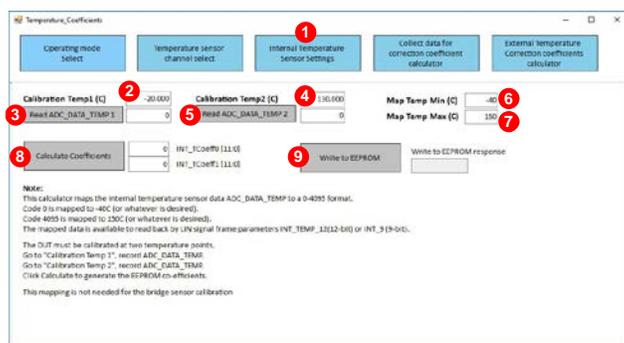

Figure 24. Calibration Window for Internal Temperature
1. Click **Internal Temperature Settings** to open the calibration window for the internal temperature (Label 1 in Figure 24).
2. Enter the first calibration measuring point in degrees Celsius (°C) in the **Calibration Temp1 (C)** box (Label 2 in Figure 24).
3. Click **Read ADC_DATA_TEMP 1** (Label 3 in Figure 24).
4. Enter the second calibration measuring point in degrees Celsius (°C) to the **Calibration Temp2 (C)** box (Label 4 in Figure 24).
5. Click **Read ADC_DATA_TEMP 2** (Label 5 in Figure 24).
6. Enter the minimum temperature in degrees Celsius (°C) that ADC Code 0 can represent in the **Map Temp Min (C)** box (Label 6 in Figure 24).
7. Enter the maximum temperature in degrees Celsius (°C) that ADC Code 4095 can represent in the **Map Temp Max (C)** box (Label 7 in Figure 24).
8. Click **Calculate Coefficients** (Label 8 in Figure 24). The coefficient calculator is called and the result is displayed as hex numbers in the **INT_TCcoeff0 [11:0]** and **INT_TCcoeff1 [11:0]** boxes.
9. Click **Write to EEPROM** (Label 9 in Figure 24).